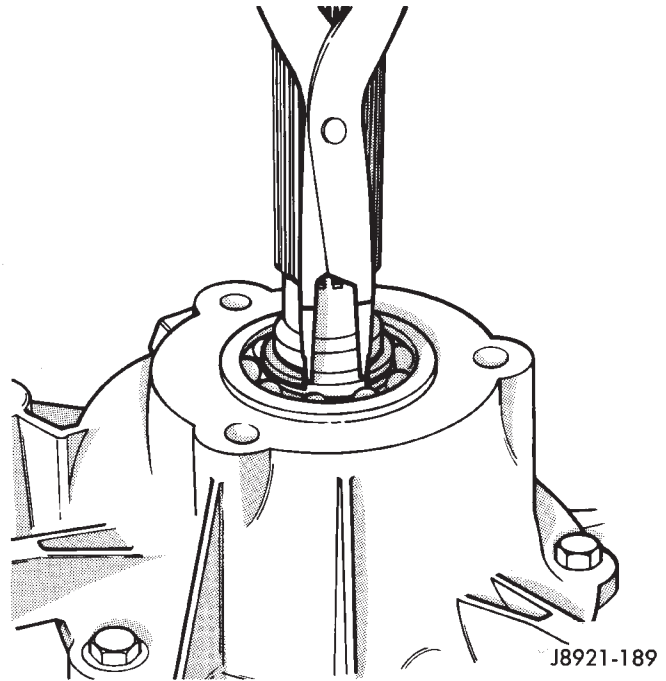

Fig. 77 Installing Rear Bearing Snap Ring
(66) Apply 3 mm (1/8 in.) wide bead of Mopar gasket maker, silicone adhesive sealer, or Loctite 518 to seal surface of rear retainer.
(67) Install locating dowel in rear retainer (if removed) and install the retainer on the case. Tighten the retainer bolts to 41 N•m (30 ft. lbs.) torque.
(68) Install new rear bearing snap ring (Fig. 77). Lift mainshaft slightly to seat the snap ring if necessary.
(69) Remove extension housing seal if not removed previously.